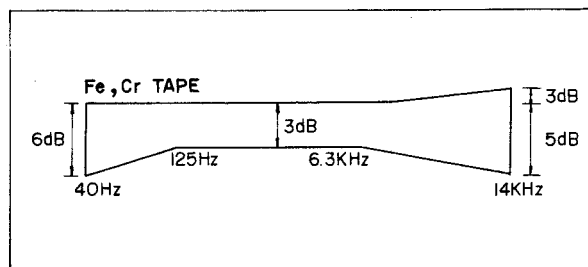
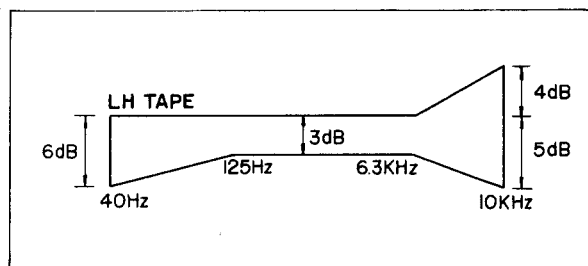
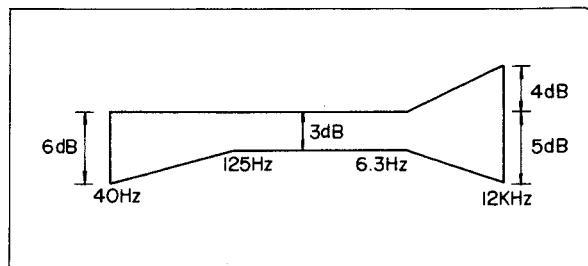

Fig. 10
Fig. 11
Fig. 12
5. Playback the recorded signal and check to see if the signal comes in the range shown in Fig. 10 for LH tape and in the range in Fig. 11 for Fe-Cr, CrO₂ tapes.
3. Playback the recorded signal and check to see if the signal is in the frequency range shown in Fig.11 for LH tape and in the range shown in Fig.12 for Fe-Cr, CrO₂ tapes.